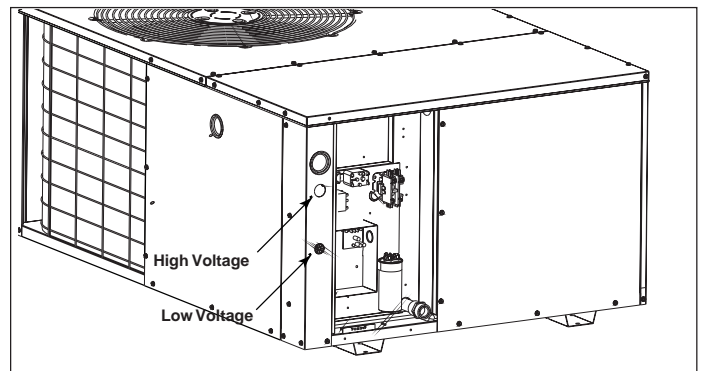

Figure 8. Power Entry
- Extend leads through power wiring hole provided. Connect L1 and L2 directly to the contactor. (See Figure 8).